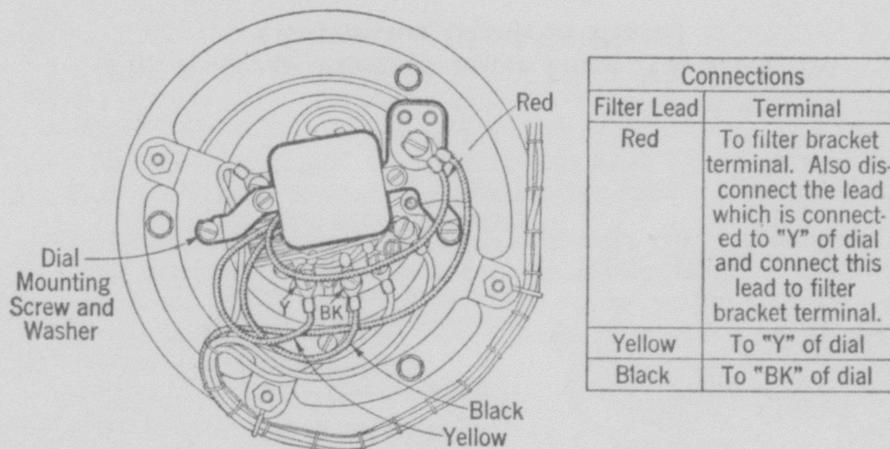

Fig. 8—No. 61L Filter Connections
- 3.03 If a filter is required install No. 61L filter in accordance with Fig. 8.